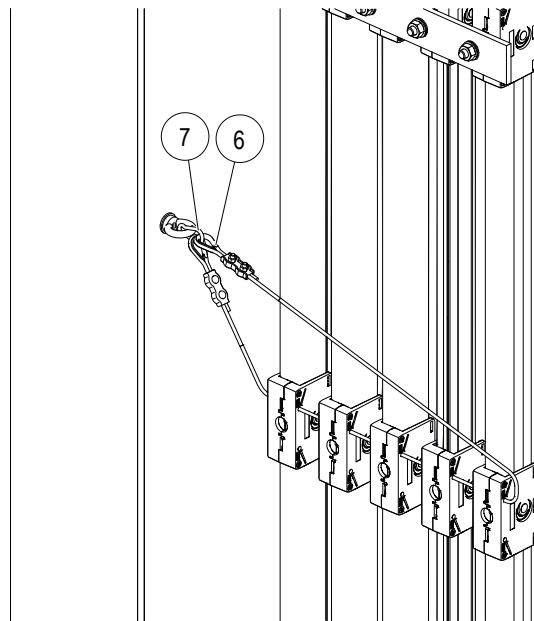

Fig. 43: Hook the rope thimble into the snap hook (Item 7).
The fall arrest device is mounted on every other rail. These are always between the last two hanger clamps of the second rail (see also Fig. 43 and Fig. 44 in section 5)
- Hook the rope thimbles into the snap hooks (Item 7) (see Fig. 43).
- Hook the snap hook (Item 7) into the suitable secure fastening options (e.g. eyebolt) for the safety rope (Item 4) (see Fig. 43).
A segment is shown schematically (number of busbars not representative) in Fig. 43.